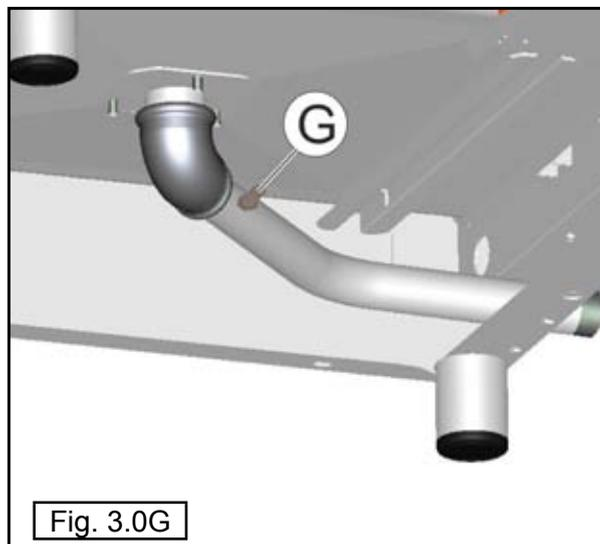

Fig. 3.0G
The solenoid valve, via the injector (G), lets cold water into the drainpipe to condense the steam when a temperature of 90°C is reached (Fig. 3.0G).